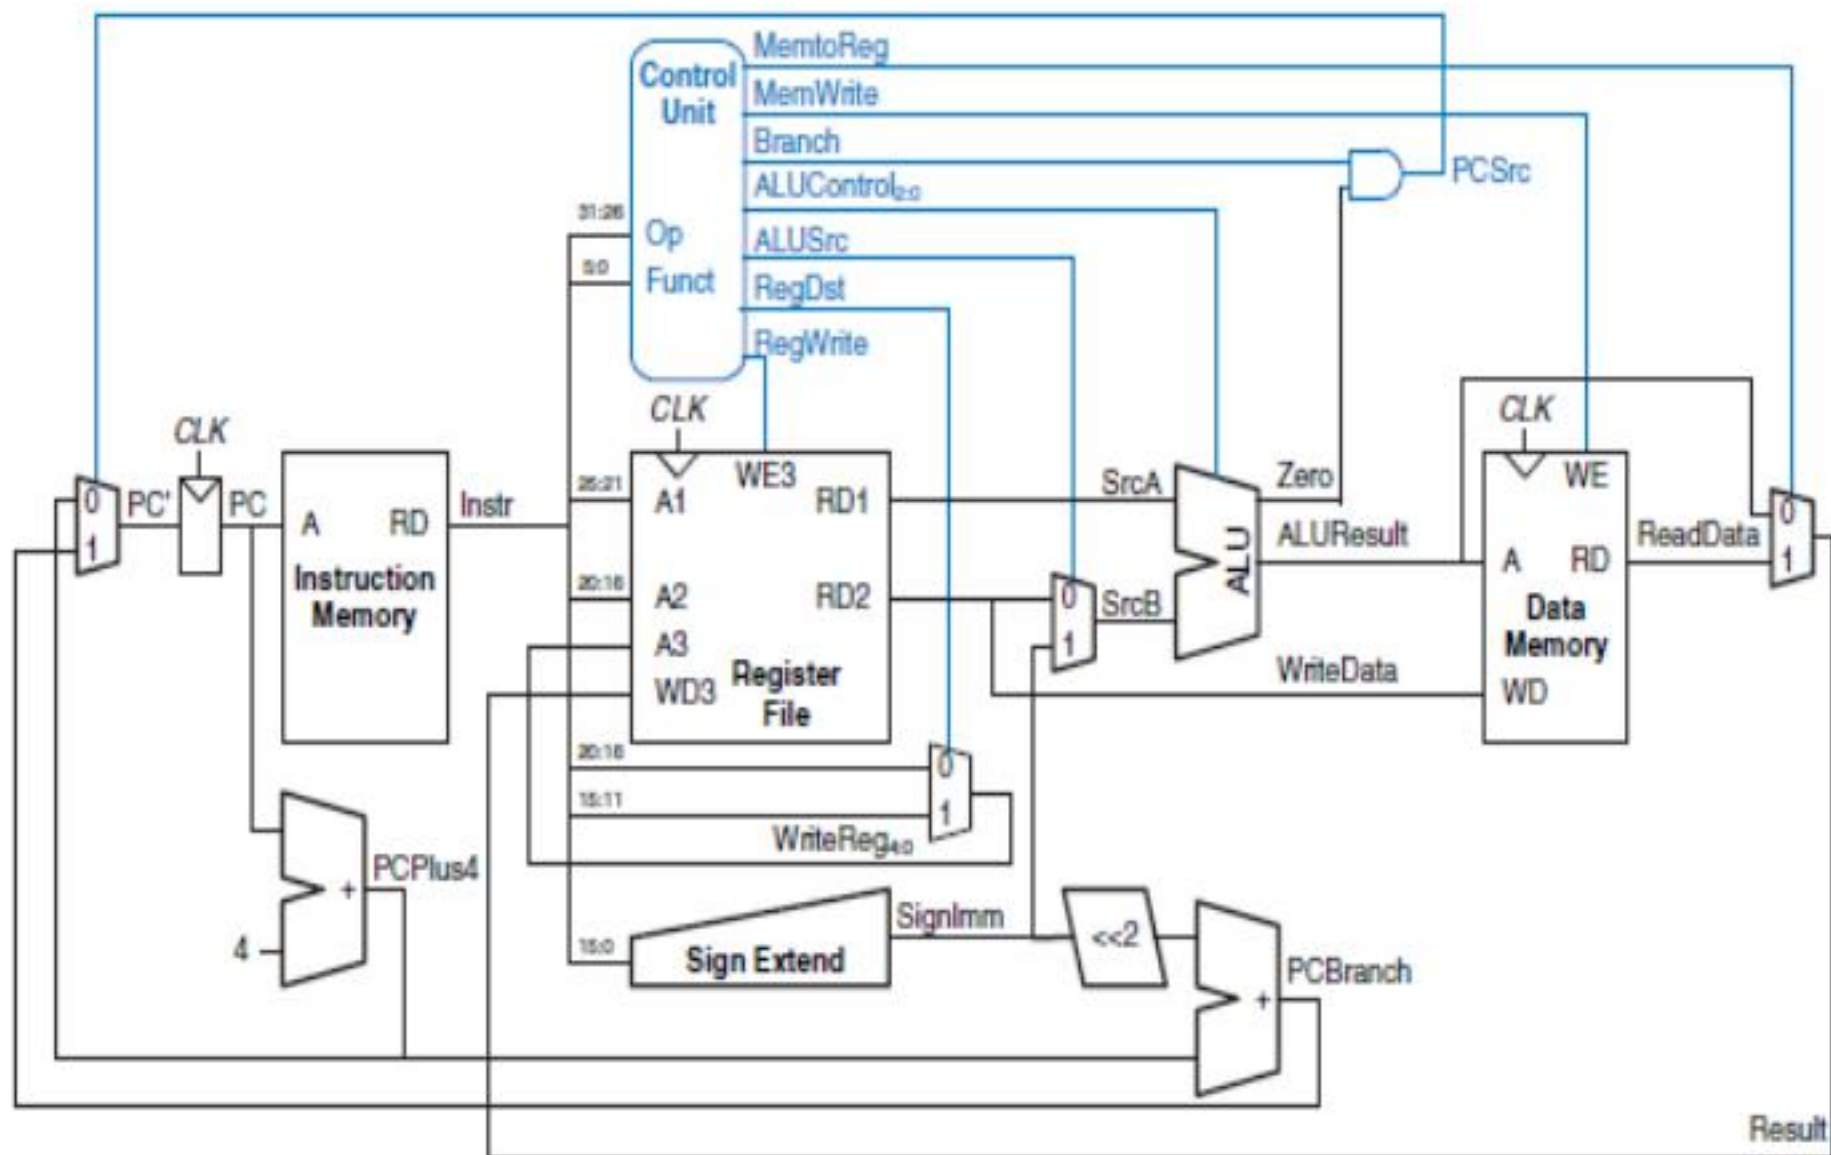

Figure 7.11 Complete single-cycle MIPS processor
- The control unit computes the control signals based on the opcode and funct fields of the instruction, Instr31:26 and Instr5:0. Figure 7.11 shows the entire single-cycle MIPS processor with the control unit attached to the datapath.